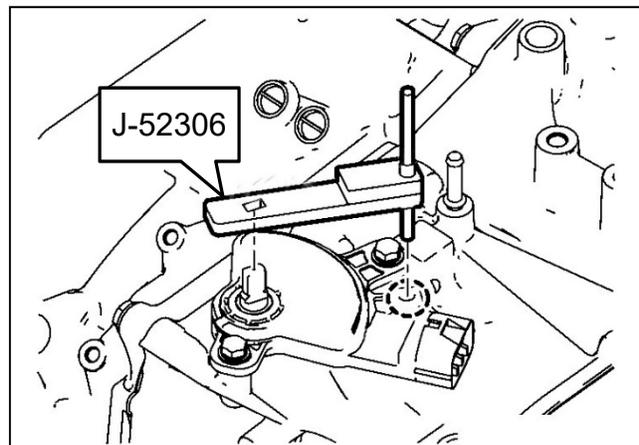

Figure 7
11. Set tool J-52306 onto the manual shaft while inserting its pin in the hole of the transmission range switch (see Figure 7).